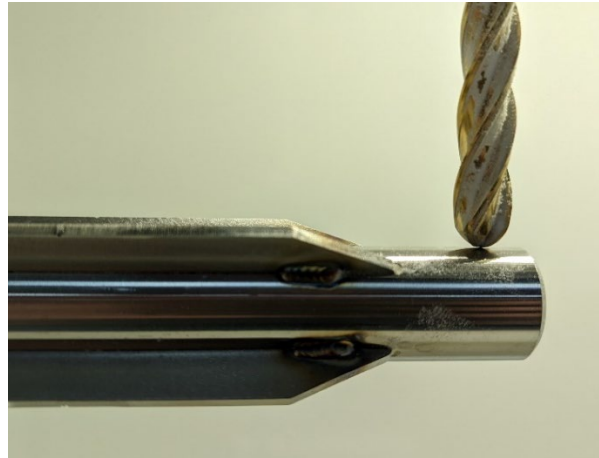

Figure 22: Bit Resting on the Mandrel
8. Place the bit in the collet and manually slide it over to the right side of the mandrel. Allow the end of the bit to rest on the mandrel, as seen in Figure 22.